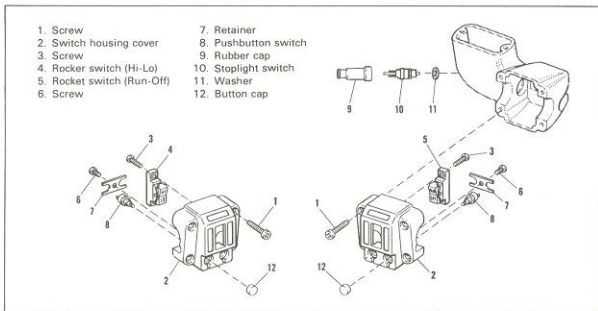

Figure 5-2B. Handlebar Switch Assemblies
The left handlebar switch assembly, Figure 5-2B, contains a rocker arm switch (headlamp HI-LO beam) and two pushbutton switches (horn and left turn signal). The right handlebar switch assembly contains a rocker arm switch (RUN-OFF) and two pushbutton switches (engine start and right turn signal). Individual rocker arm and pushbutton switches can be replaced if defective.
To replace individual switches, remove four screws (1, Figure 5-2B) and pull off cover (2) assemblies. Remove screws (3) and rocker switches (4) and (5) or screws (6), retainer (7) and pushbutton switch (8) as needed. Reassembly is the reverse of disassembly.